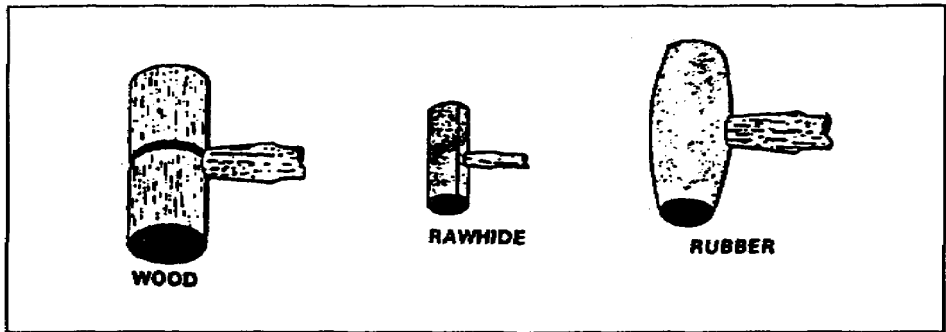

Figure 2-32. Mallets
(2) Mallets. Mallets are, in reality, wooden hammers. Although not considered a driving tool, they are used the same way as hammers. You will use mallets primarily for driving chisels and wedges. Depending on their use, mallets can vary in size from a few ounces to a few pounds. Many woodworkers make their own mallets to suit their personal touch. Figure 2-32 shows three types of mallets.